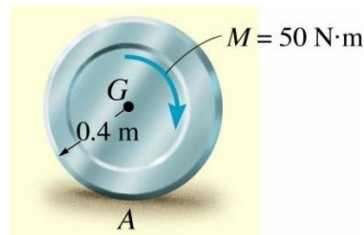

Figure 4[a]
4. [a] The 25 kg wheel shown in Figure 4[a] has a radius of gyration $k_G = 0.2$ m. If a 50 N.m couple moment is applied to the wheel, determine the acceleration of its mass center G. The coefficient of static and kinetic friction between the wheel and the plane at A are $\mu_s = 0.3$ and $\mu_k = 0.25$, respectively.